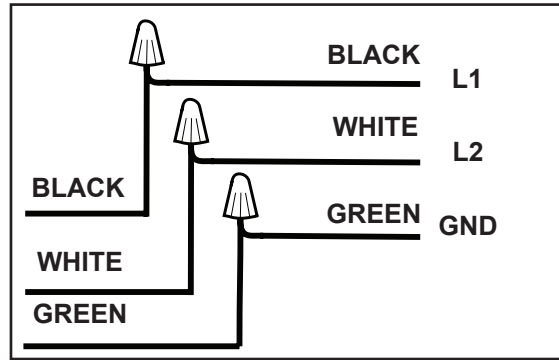

Figure 3. Electrical Connection Box
- **ELECTRICAL POWER CONNECTION:** All systems are shipped with open electrical connections and are directly connected to the branch supply circuit as shown by Figure 3. See Site Electrical Requirements, page 6, for the required branch circuit size for each system.